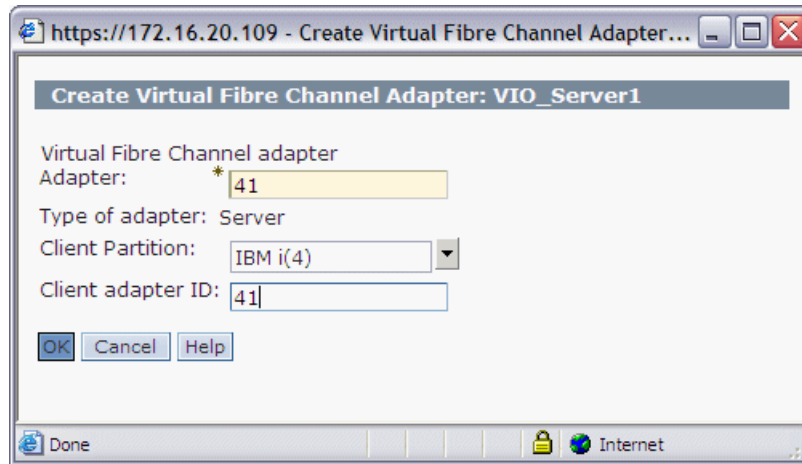

Figure 16-17 Set virtual adapter ID
- d. Enter the virtual slot number for the Virtual Fibre Channel server adapter. Then select the Client Partition to which the adapter can be assigned, and enter the Client adapter ID as shown in Figure 16-17. Click **OK**.